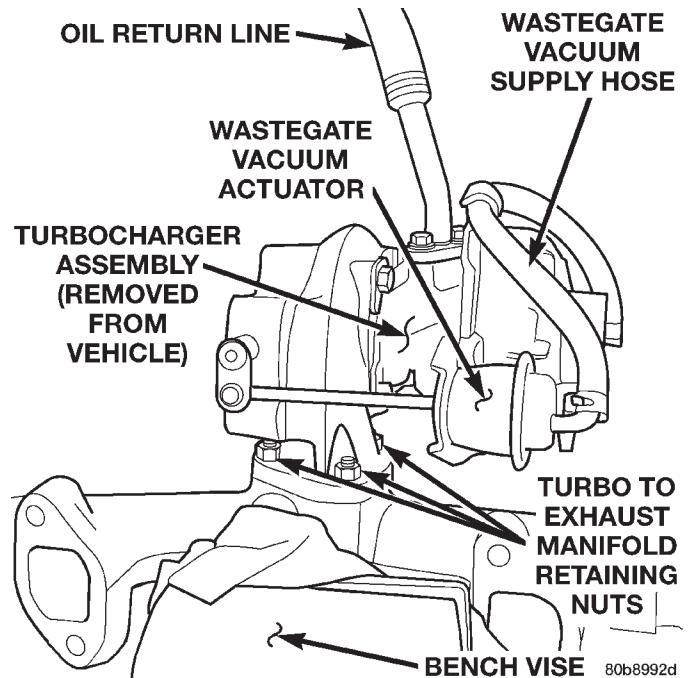

Fig. 8 Turbocharger / Exhaust Manifold Assembly
(19) Remove the exhaust downpipe heatshield by pulling straight up.
(20) Remove the (5) bolts from exhaust manifold downpipe and remove pipe.
(21) Remove the (8) exhaust manifold retaining bolts, it is necessary to access the bolt behind the manifold outlet from the underneath of the vehicle.
(22) Remove the exhaust manifold and turbocharger assembly from the vehicle.
(23) Place assembly in a vice to remove the (3) exhaust manifold to turbocharger retaining nuts (Fig. 8).